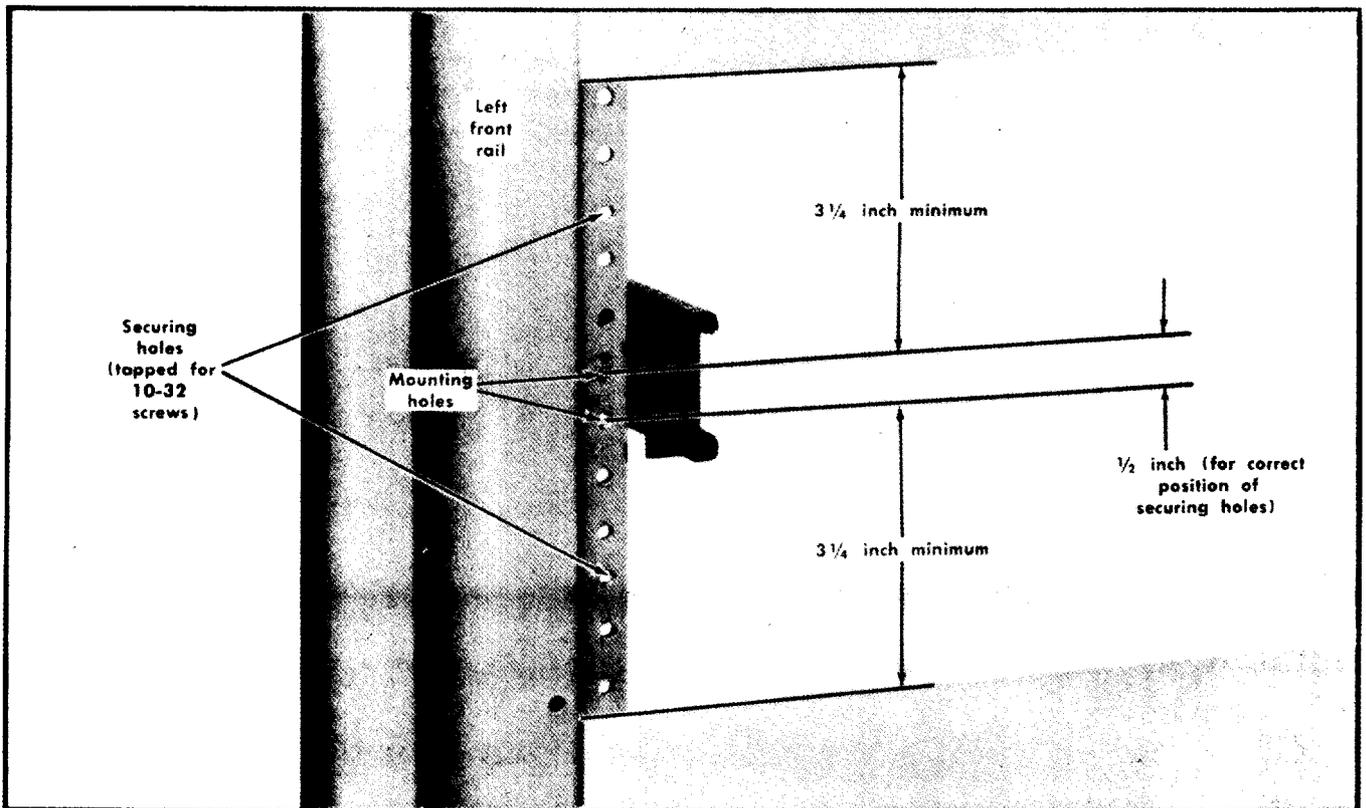

Fig. 10-6. Locating the mounting holes for the left stationary section. Same dimensions apply to right stationary section.
1. Select the proper front-rail mounting holes for the stationary sections using the measurements shown in Fig. 10-6.